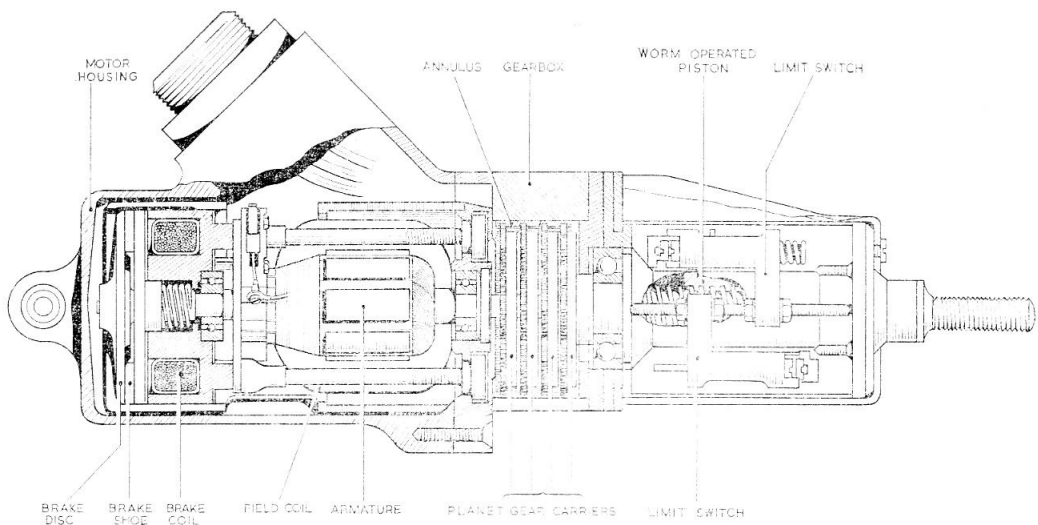

Fig. 2. Sectional view of actuator
2. The actuator consists basically of a fractional horse-power motor, epicyclic gearing and worm-operated piston (*fig. 2*). It is constructed with the motor axis coincident with the axis of the piston, the gearing coming between piston and motor. The assembly as a whole is sealed against the ingress of dust, oil, moisture, etc.